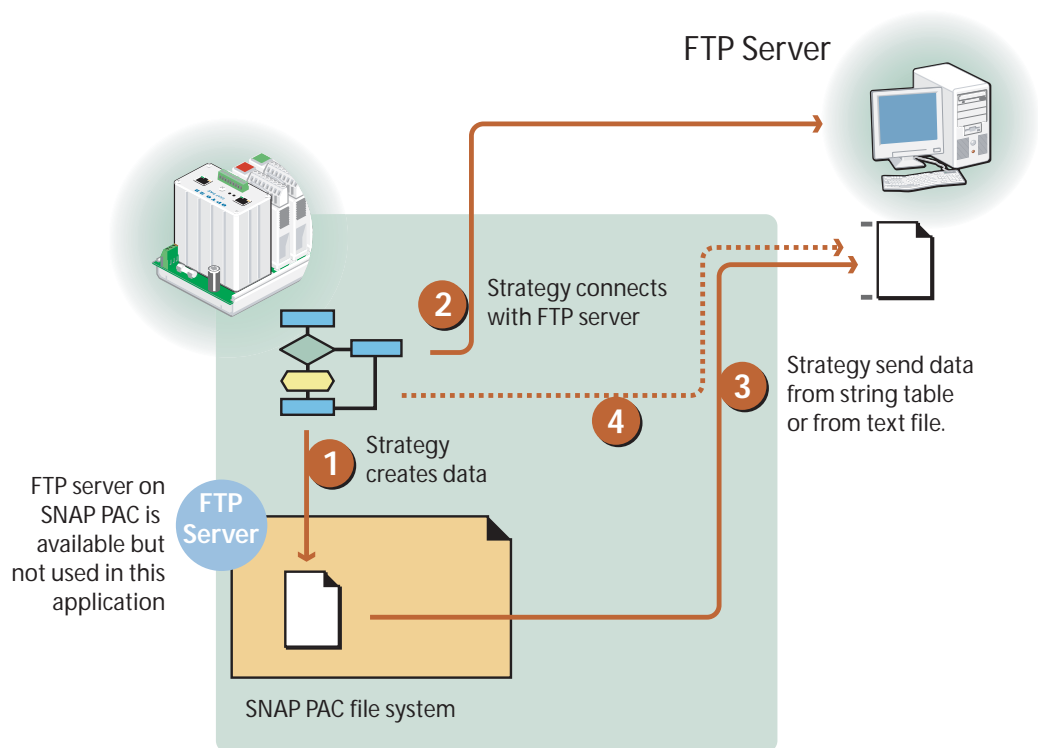

Figure 12: Paths for sending data to an FTP server
- Write your data to a file on the SNAP PAC and then send the file to the FTP server. (Paths 1–3 in Figure 12)
- Send a variable to an FTP server. This eliminates the step of creating a text file. Path 4 in Figure 12 shows this route using a persistent variable, but this method works with both persistent and global variables.